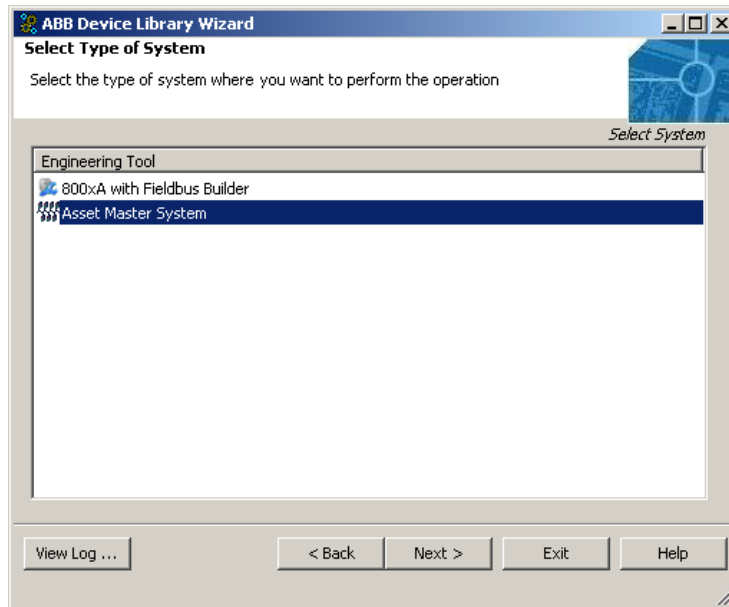

Figure 66. Select Type of System
- From the list of systems in the resulting screen, as shown in Figure 66, select “Asset Master System” and click on **Next** button.